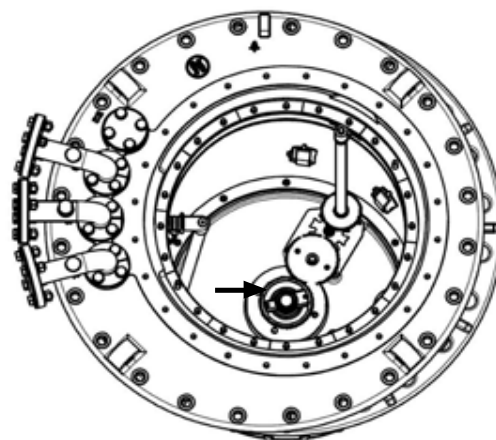

Figure 22 Remove the oil suction pipe switch insert
- 4) To remove the position indicating disc, pull out the open locking tab from the shaft end and disassemble the disc (Figure 22).